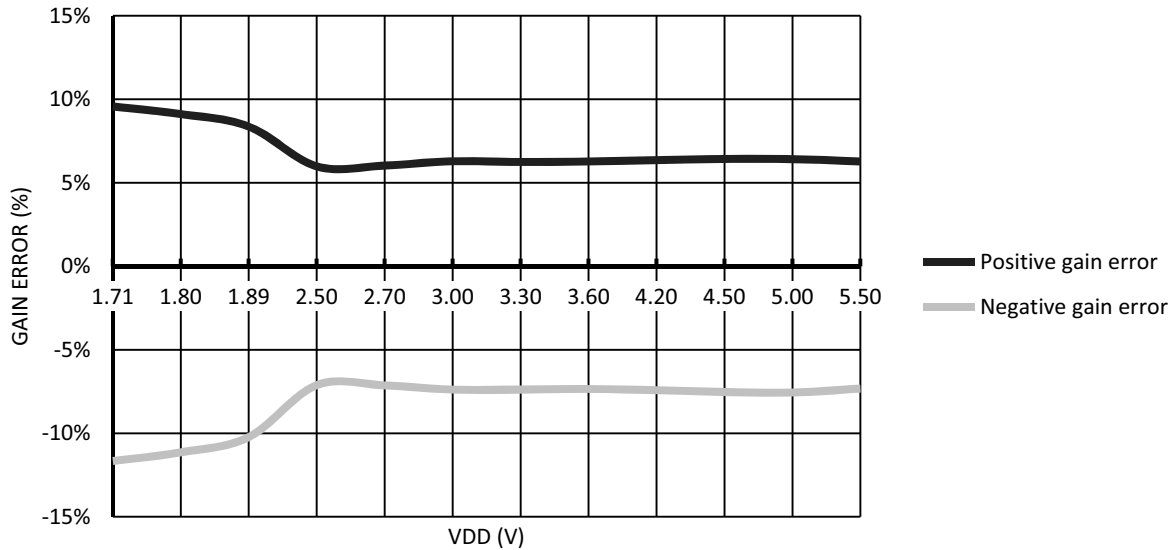

Figure 19. Input Buffer Gain Error vs. VDD
*Note: the input buffer gain depends on VDD, see Figure 19.*